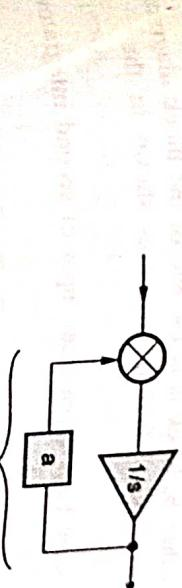

Fig. Q.9.1
• Its simulation is as shown in the Fig. Q.9.1.